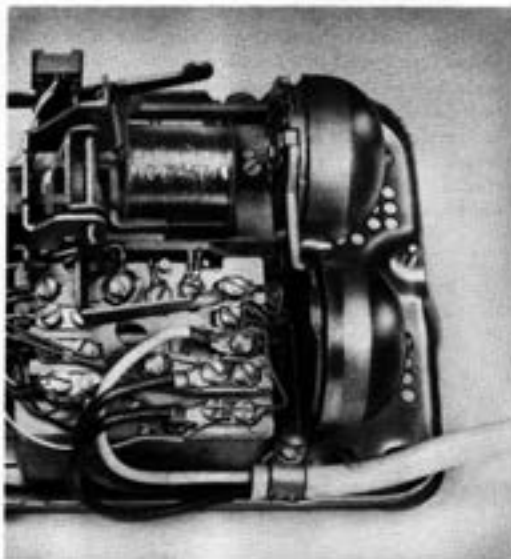

Fig. 6—Securing C Weatherproof Cord in Telephone Set
- Cord, Weatherproof, C (used with recreational vehicle or boat for direct connection from telephone set to jack, Fig. 6)
2.07 The C weatherproof cord (Fig. 6) is the same as the B weatherproof cord except that the female plug on the recreational vehicle or boat end is replaced with spade-tipped leads for terminating the cord directly in a 500- or 2500-type telephone set. An S hook assembly is provided for fastening the cord via the ringer mounting screw. Terminate leads (BK) for tip, (W) for ring, and (G) for ground.